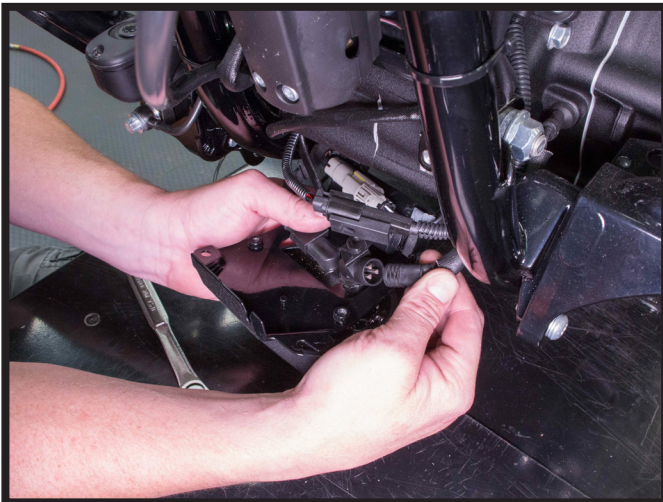

FIGURE 24
13. UNPLUG THE CONNECTORS FROM THE REGULATOR/RECTIFIER. THIS IS ONLY APPLICABLE FOR NEWER SOFTAIL MODELS. (FIGURES 24, 25)